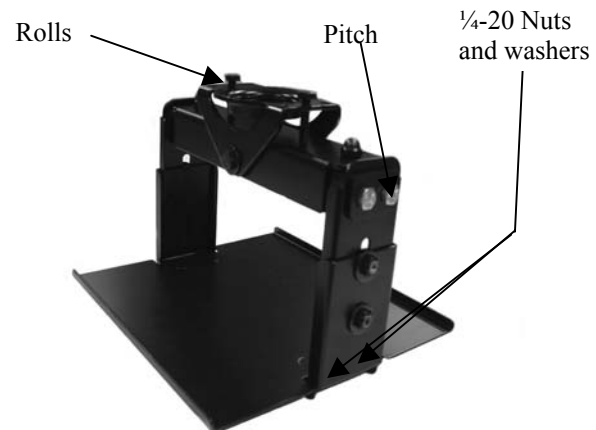

Figure 1
2. Measure projector width and height and adjust LCDA frame to appropriate size. Hand tighten only to prevent members from moving freely (see Figure 1).
Loosen the 1 1/2" jam nut and back it off a couple of turns. Turn LCDA frame assembly clockwise to desired yaw and re-tighten jam nut. **CAUTION!** When turning LCDA assembly about the pipe in a counter clockwise direction, it may be completely unthreaded (see Figure 1).
Slightly loosen four 1/4-20 bolts at the upper outsides of the assembly and it may be tilted forward or backward to a desired angle. Re-tighten bolts (see Figure 1).
Loosen either of the roll adjust bolts and tip assembly to desired angle. Re-tighten opposite bolt to lock position (see Figure 1).